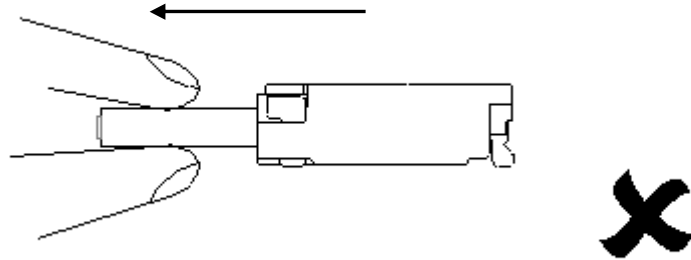

FIG. 6
3.2.2 Connector shall not be unmated horizontally as shown in fig. 6 to prevent part damage